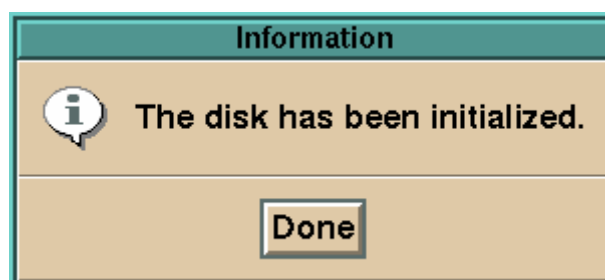

Fig. 6.10-3 Dialog to exit from Initialization
- (4) Upon completion of initialization of the MOD/DVD, the dialog shown in Fig. 6.10-3 to exit from the initialization process is displayed. After confirmation of the initialization, click [Done] button.